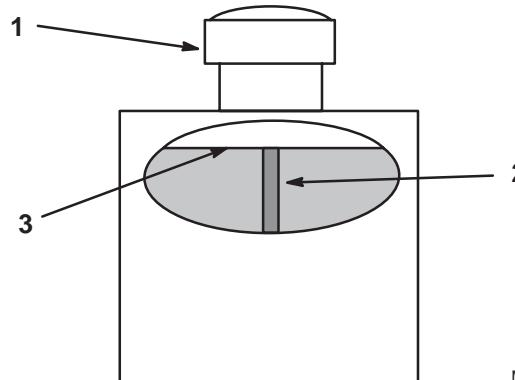

Figure 9
- Clean area around filler neck of hydraulic tank (Fig. 9).
- Remove cap from filler neck. Look inside to check if there is fluid in the reservoir (Fig. 9).
**Note:** Fluid level should be to the top of the baffle when fluid is warm (Fig. 9).